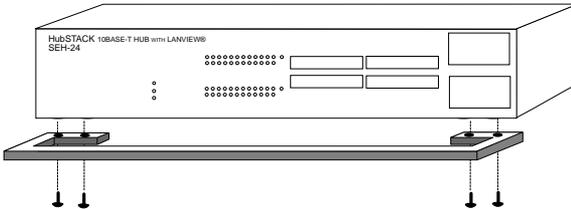

Figure 3-3. Attaching the Strain Relief
2. Attach the strain relief bracket to the bottom of the SEH as shown in Figure 3-3.